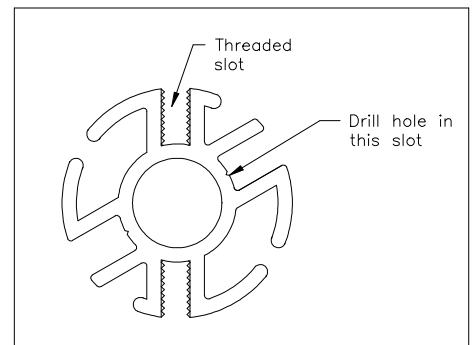

FIGURE 1
- 2) Drill a 3/8" hole, 1/2" from each end of the rollerbar. Start the hole in one of the smooth-sided slots, **not** a threaded slot (see Figure 1).